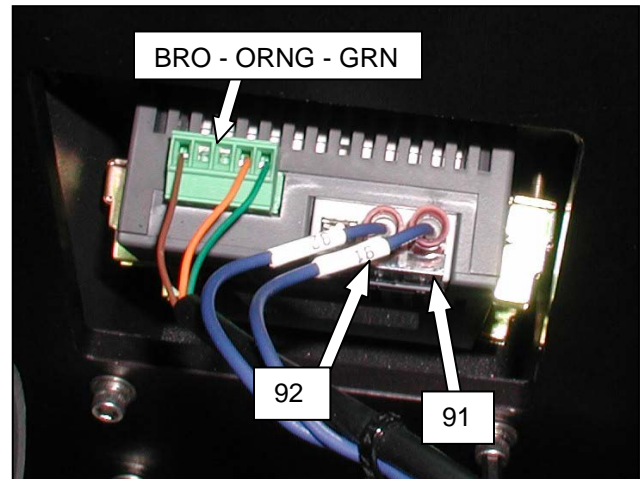

Figure 3-84. Display Connections
2. Check that the wiring in the Display Plug is correct and securely screwed down (Figure 3-84).